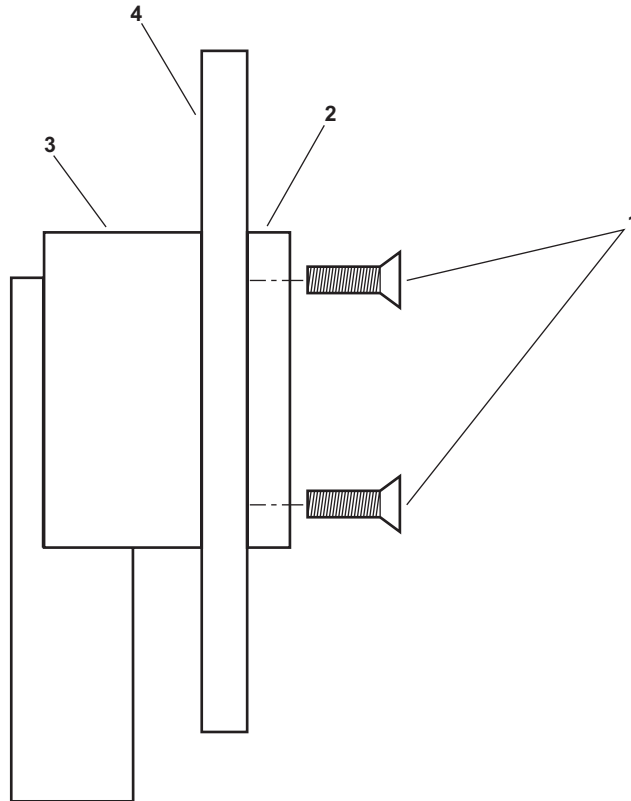

Figure 4. Handle Replacement
2. Remove the three screws (figure 4, item 1) securing the retaining ring (figure 4, item 2) and remove the retaining ring.
3. Remove the handle (figure 4, item 3) from the enclosure door (figure 4, item 4).
1. Position the handle (figure 4, item 3) in the enclosure door (figure 4, item 4).
2. Secure the handle (figure 4, item 3) with the retaining ring (figure 4, item 2) and three screws (figure 4, item 1).